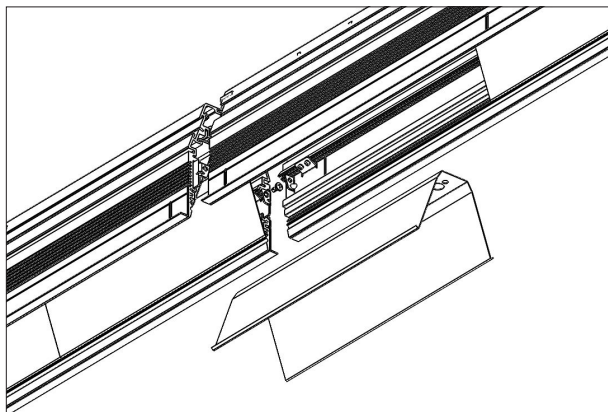

fig. 17
- a. Remove the new fixture's first reflector (closest to IN side). (See fig. 17.) Remove the reflector's Phillips M2 screws, then detach apply light pressure to the seam between reflectors using a flat tool. Lastly, unhook the reflector by applying light pressure to its outer edges. Pull to remove.